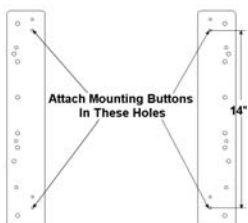

Figure 2
1. Using the 5/16-18 hex head cap screws inserted through the button at a spacing of 14", secure mounting button, with the Nylock nuts, to bracket (four places) (See Figures 2 & 3). Tighten securely utilizing a two 1/2" wrenches.